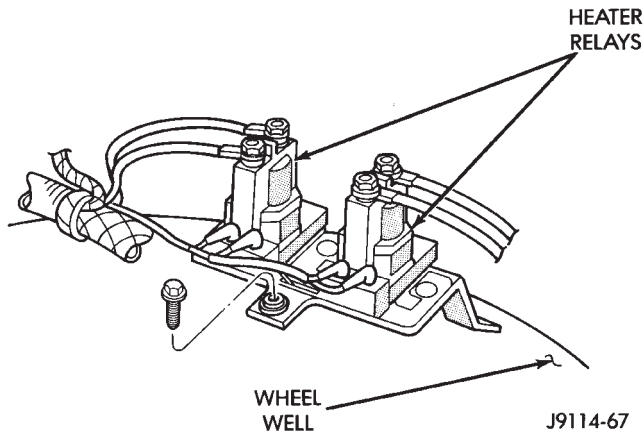

Fig. 6 Air Intake Heater Relays
- (1) Disconnect negative cable from battery.
- (2) Disconnect electrical connections from relays (Fig. 6).